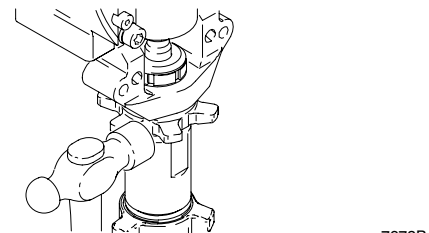

Fig. 15 7673B
3. Fig. 15. Screw jam nut down onto pump until stops. Screw pump up into bearing housing until it is stopped by jam nut. Back off pump and jam nut to align pump outlet to back. Tighten jam nut by hand, then tap 1/8 to 1/4 turn with a 20 oz (maximum) hammer to approximately  $75 \pm 5$  ft-lb (102 N-m).